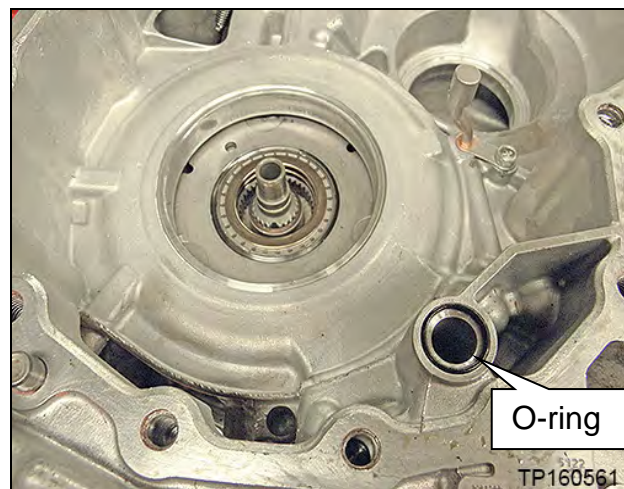

Figure 21F
18. Replace the O-ring on the CVT case side with a new one from the PARTS KITS REFERENCE TABLE; discard original O-ring (Figure 21F).